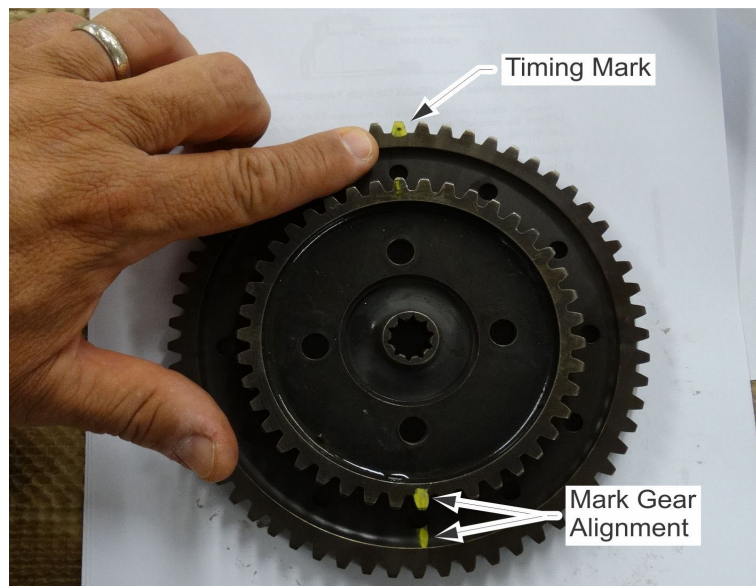

Figure 18. Transfer Gear Alignment Marks
- f. Align and mark the crankshaft gear and camshaft gear 180 degrees from the timing marks (see Figure 18). Remove the half-height alignment screw and remove camshaft gear through the oil sump area.